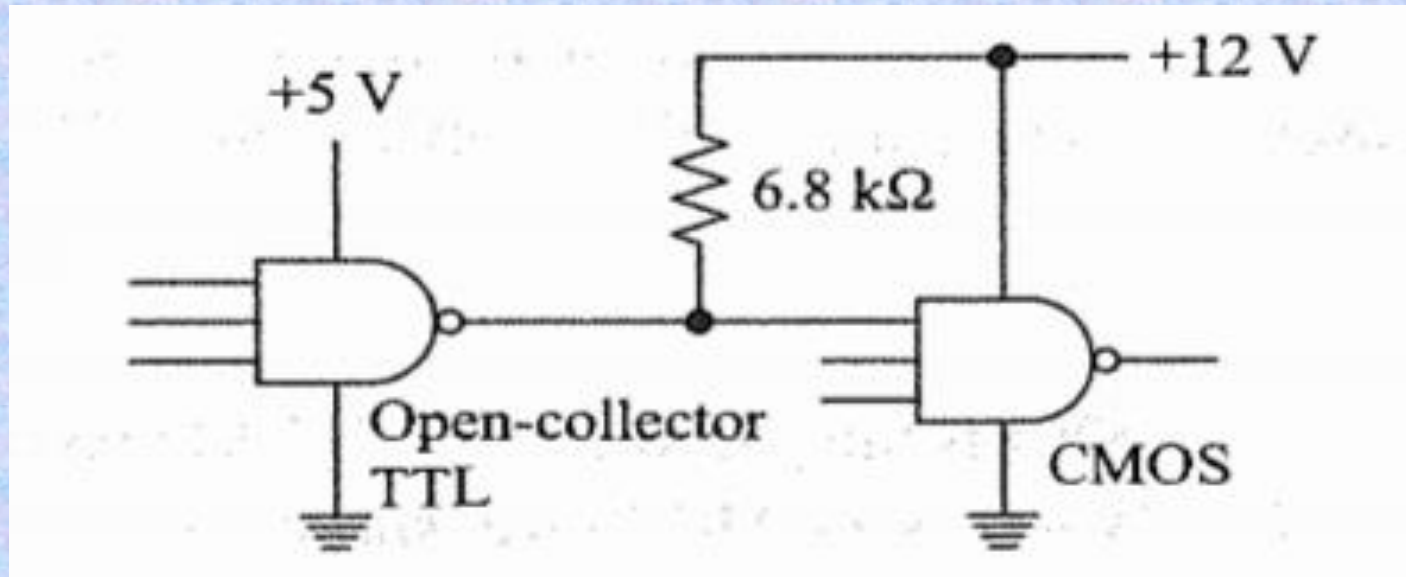

Fig. 1.36 Open-collector TTL driver allows higher CMOS supply voltage
- CMOS performance deteriorates at lower voltages because the propagation delay time increases and the noise immunity decreases. Therefore, it is better to run CMOS devices with a supply voltage between 9 and 12 V. One way to use a higher supply voltage is with an open-collector TTL driver (Fig. 1.36). Recall that the output stage of an open collector TTL device consists only of a sink transistor with a floating collector. In Fig. 1.36. this open collector is connected to a supply voltage of +12 V through a pull-up resistance of 6.8 k Ω . Likewise, the CMOS device now has a supply voltage of +12 V.
- The passive pull-up in Fig. 1.36 produces slower switching action than before. For instance, with a gate input capacitance of 10 pF, the pull-up time constant is